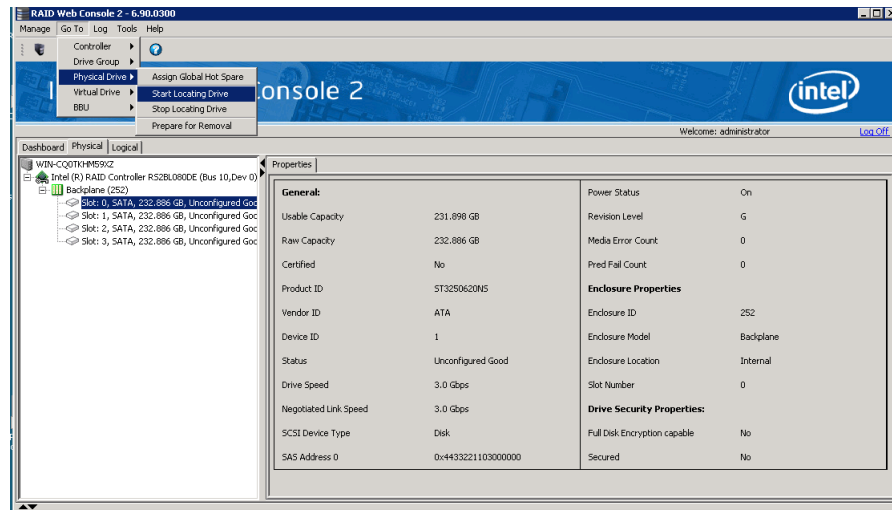

Figure 84. Locating a Physical Drive
3. Click **Start Locating Drive** (see Figure 84).